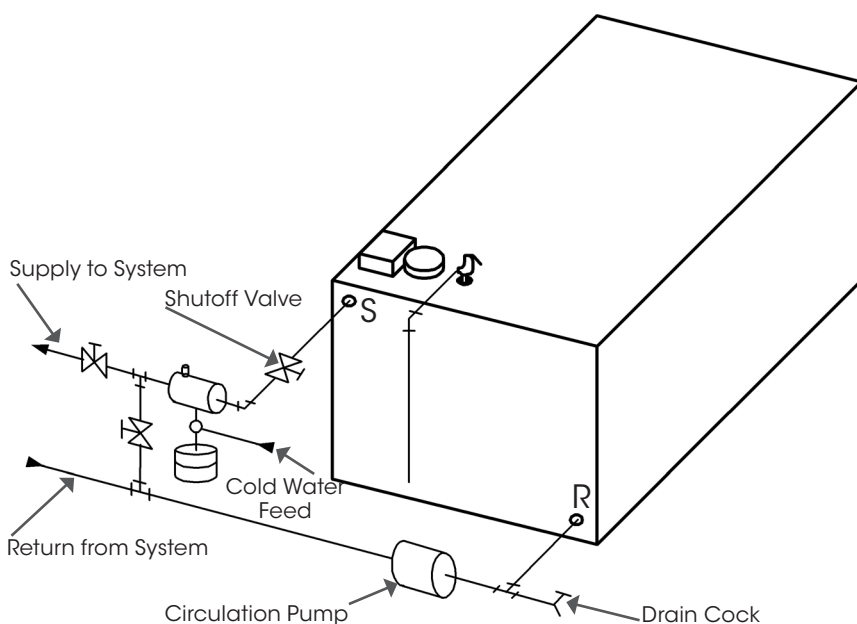

Figure 21
4. Large water content systems: Such systems as converted gravity systems, old systems with cast iron radiators, and also newer systems that employ outdoor reset control present a potential problem with low return water temperatures and condensation. The boiler must be protected from condensation in such cases by using a by-pass as shown in Figure 21.